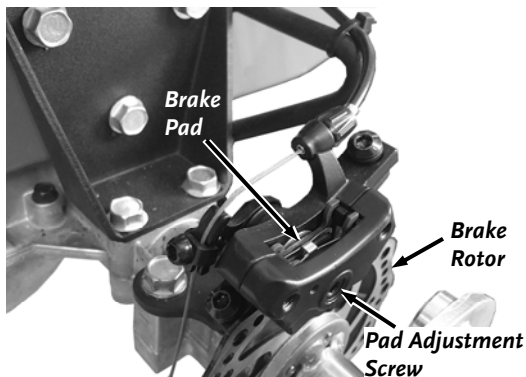

Figure 36
2. Locate the Pad Adjustment Screw on the outboard side of the caliper (**Figure 36**).